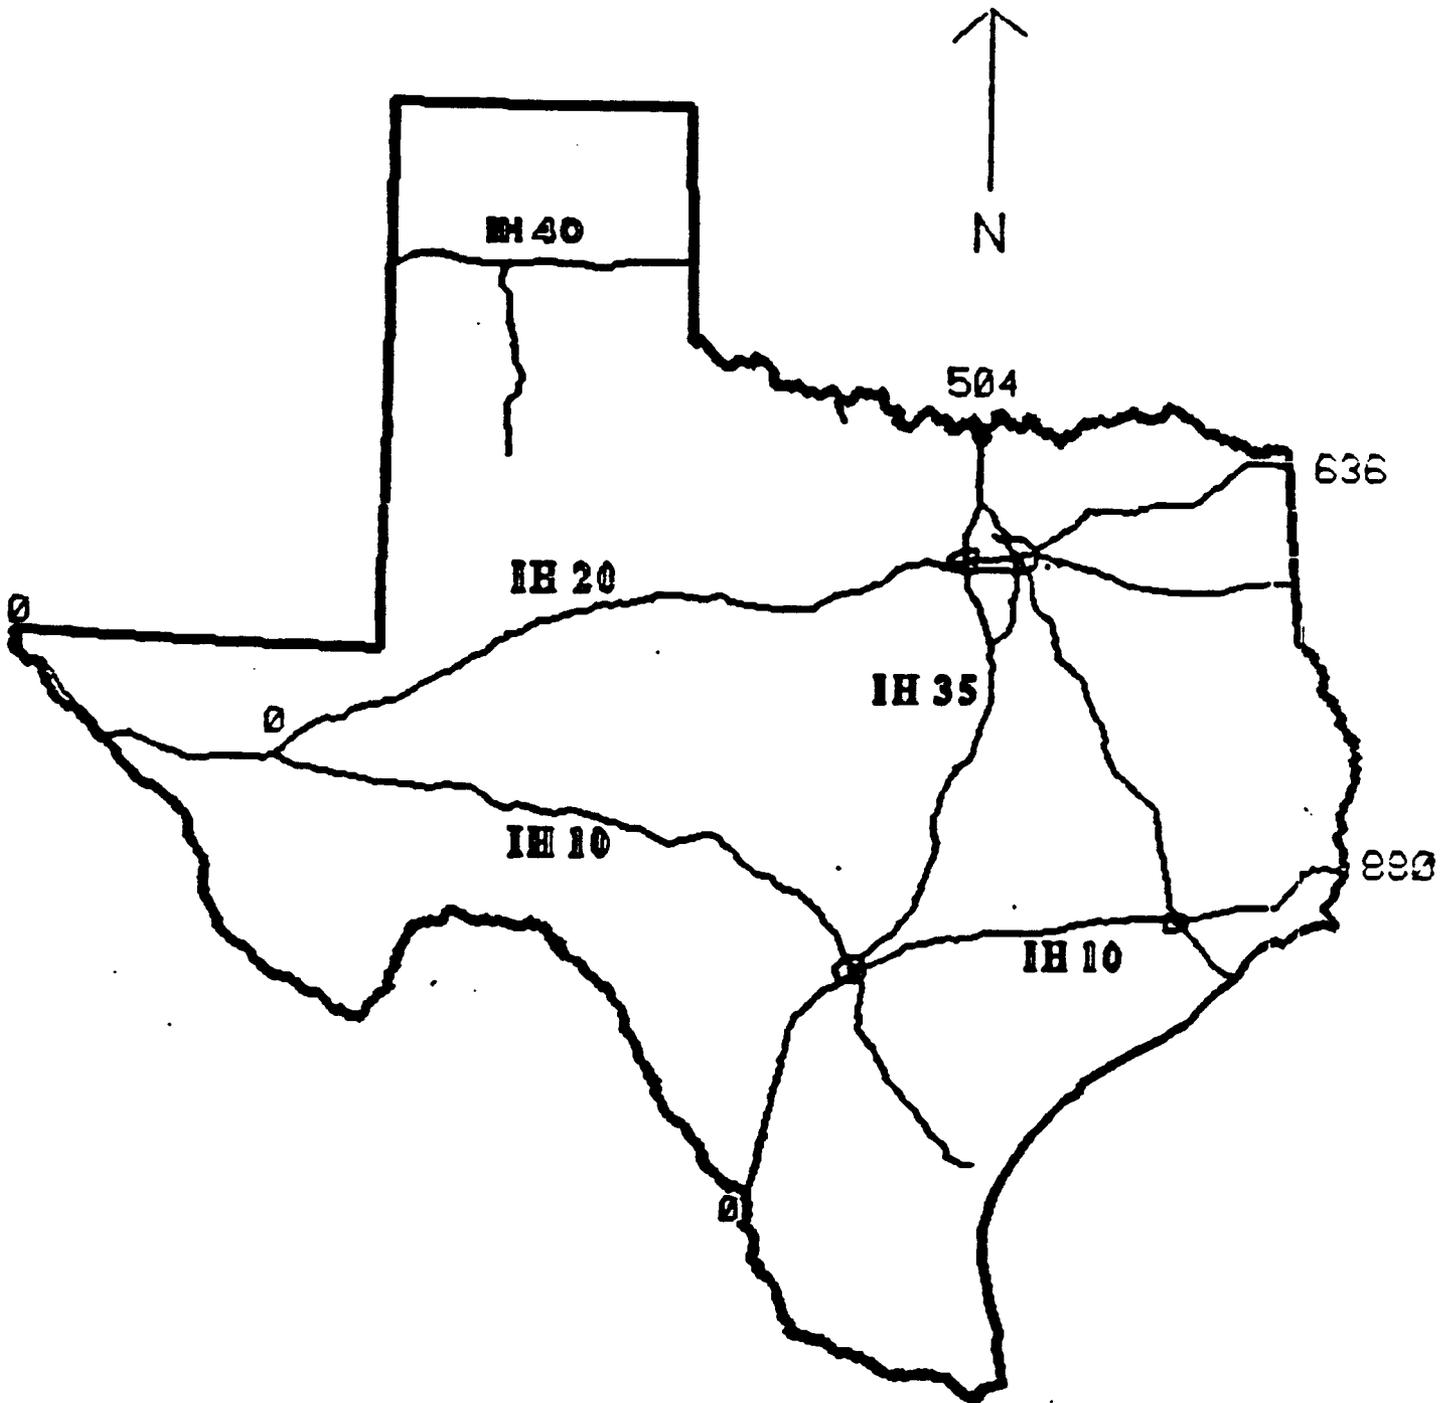

Figure 2.1 -- Milepost Numbering for Interstate Highways
1. If the road is an Interstate Highway, milepost 0 is located at the southernmost or westernmost State line. If the Interstate Highway starts in Texas (e.g. IH 20), milepost 0 is located at the road's southern or western end. Refer to Figure 2.1.